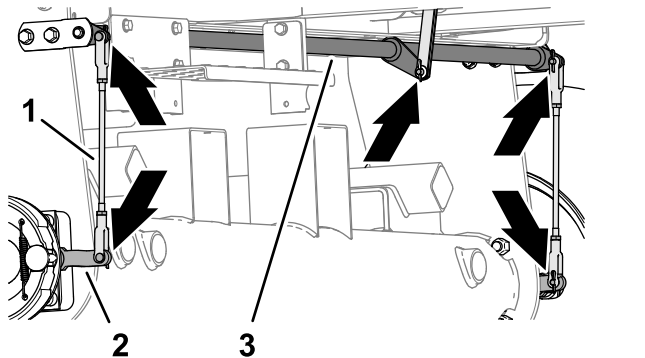

Figure 84
- Inspect the left and right brake-rod assemblies (Figure 84) for damage and wear.
- Inspect the brake pivot shaft (Figure 84) for damage and wear.